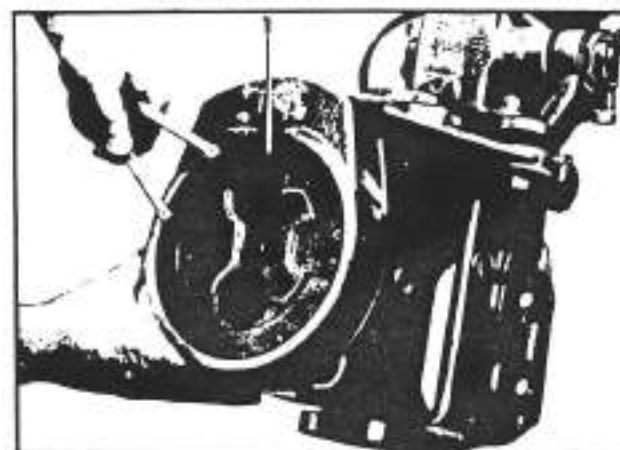

Fig. 3-41. Removal of the threaded ring
- d. Operating as indicated in figure 3-40, loosen the lock nut (2; fig. 3-40) then remove the set screw that retains the threaded ring (1). Take off the threaded ring (1) as shown in figure 3-41.
Pay attention, when removing the threaded ring, (1; fig. 3-41), not to lose the balls placed in its seat.